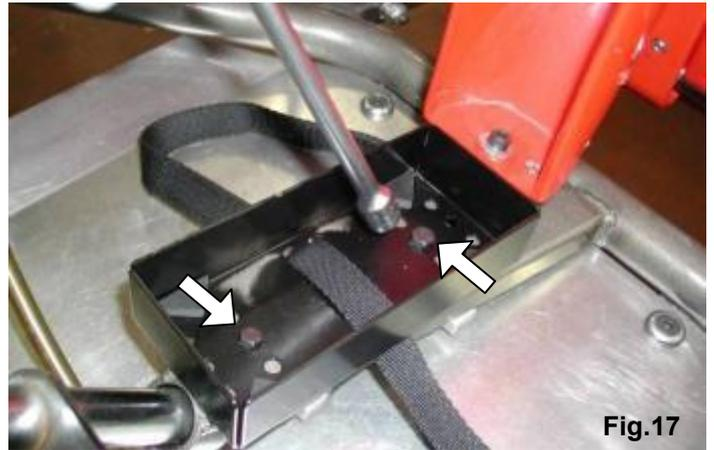

Fig.17
3.8.2 PLACE THE BATTERY SUPPORT BOX IN THE FRONT OF THE CHASSIS (UNDER THE FRONT FAIRING) AND FIX IT WITH THE CLAMPS TO THE LOWER STEERING COLUMN SUPPORT TUBES (M6x25 SCREWS- SEE FIG. 17).